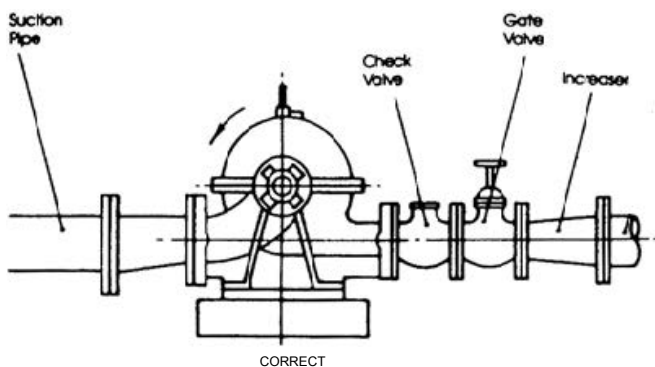

FIG.5
10. **Suction and Discharge Piping** (See Fig. 5 & 6)